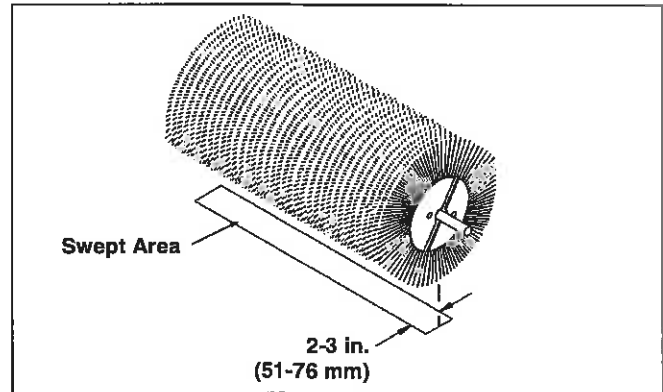

figure 32
4. Raise the sweeper and back away; switch off the engine and remove the key. The brush pattern left in the dust should be 2-3 in. (51-76 mm) wide, running the length of the brush. (Compare the swept area with figure 32.)